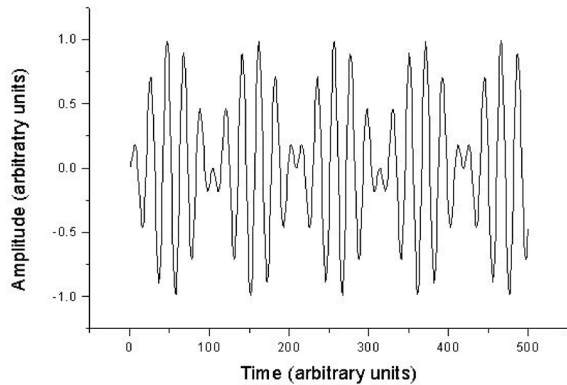

Figure 2: Example of beats.
Beats are the phenomenon that two sine waves of similar frequencies add to produce a signal that looks like a sine wave whose frequency is the average of the original sine waves with an overall modulation at a frequency given by half the difference in the original signals (Fig. 2). For example, if you add a 1000 Hz tone to a 1060 Hz tone, you will produce a 1030 Hz tone that increases and decreases in magnitude at 30 Hz. The 30 Hz is sometimes called an *envelope* that *modulates* the amplitude of the
Borrow another fork from a neighbor, strike both simultaneously and try to hear beats and see them on the scope. Since the beats will be at a lower frequency than the signal from a single tuning fork, you will have to **press AUTO again followed by Single (15) to freeze the frame.** Use the Horizontal control (11) to adjust the signal so as to see an image similar to that in Figure 2. (*There are a few pairs of tuning forks that produce particularly clear beat patterns. These are marked with matching colored squares or circles.*)